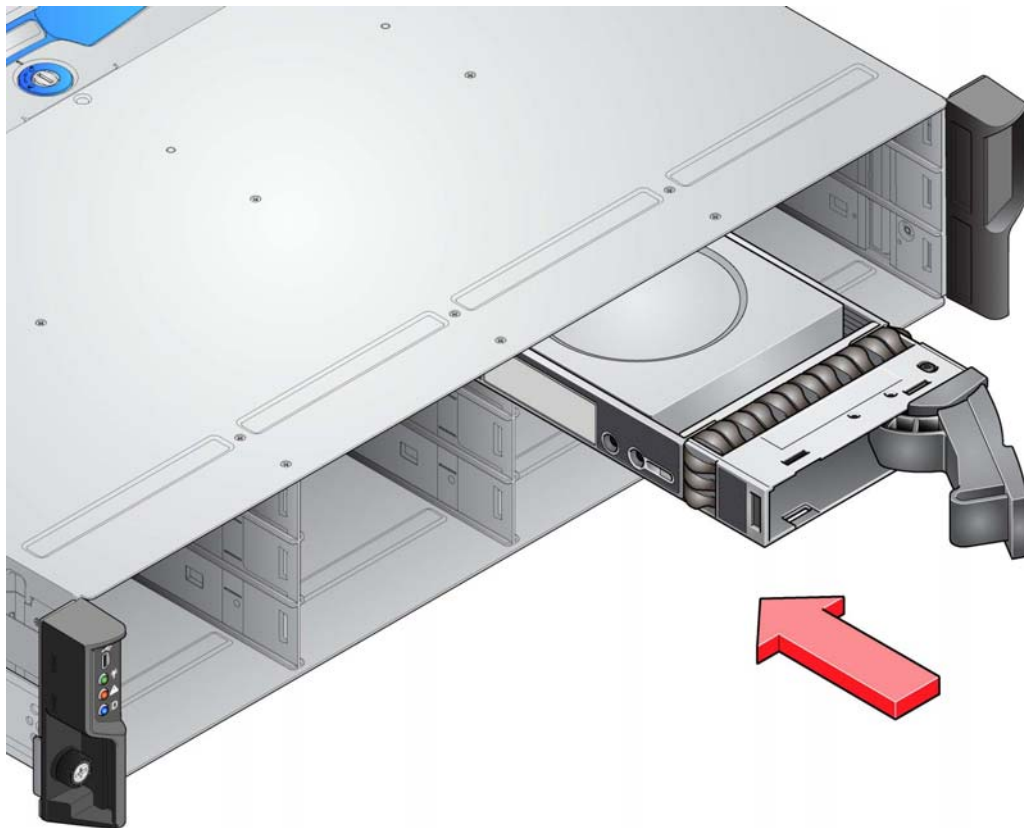

Figure 6-12 Installing a Drive Carrier Module (2)
- 2 Insert the drive carrier into the appliance (Figure 6-12).
Important Make sure that the carrier is orientated so that the drive is uppermost and the handle opens from the left, as shown in Figure 6-12.